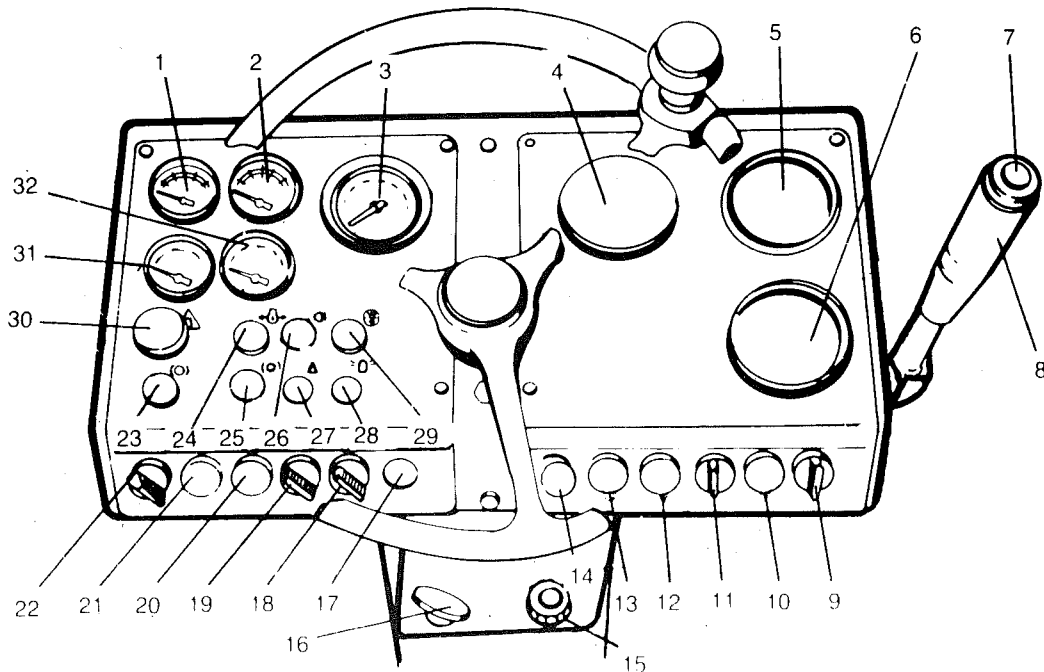

Fig 1
- 3 Move the High/low speed control (9), (Fig 1), to the desired position.